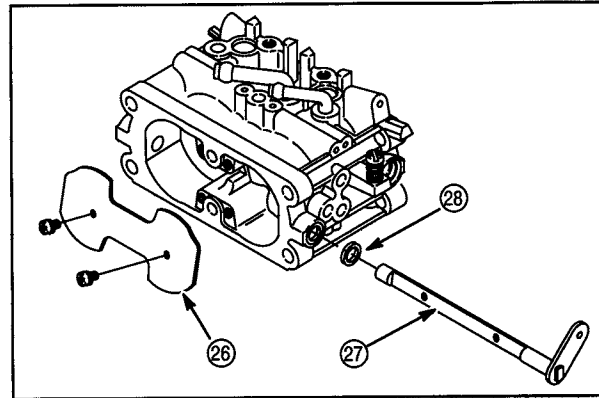

**Fig. 66**
10. Mark throttle plates (24) before removing to ensure reinstallation in the original position, **Fig. 66**.
11. Remove throttle shaft (22), spacer (21) and seal (23).